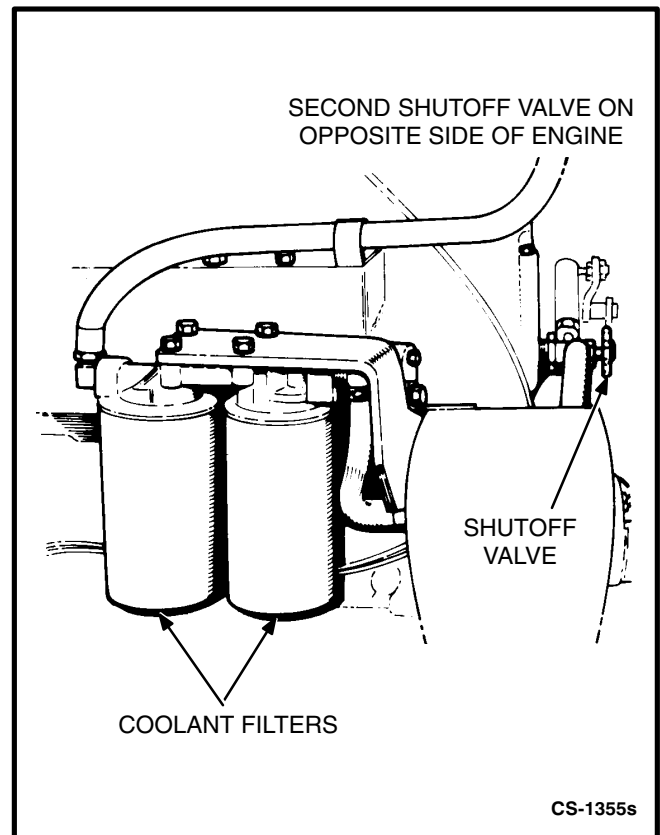

FIGURE 5-4. COOLANT FILTERS
1. Close the shutoff valves (Figure 5-4).